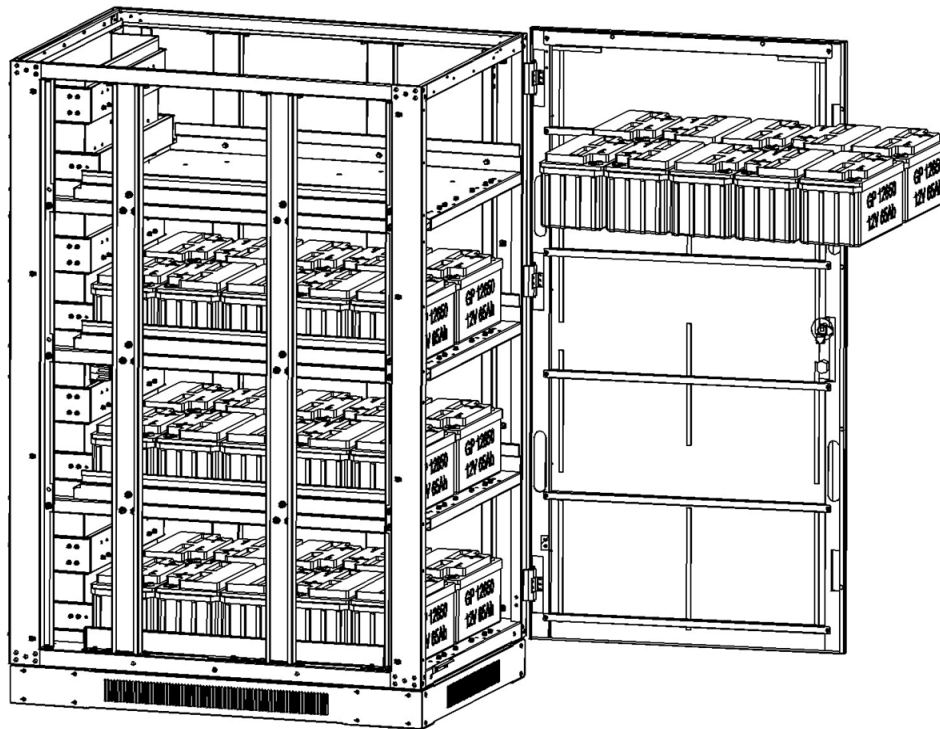
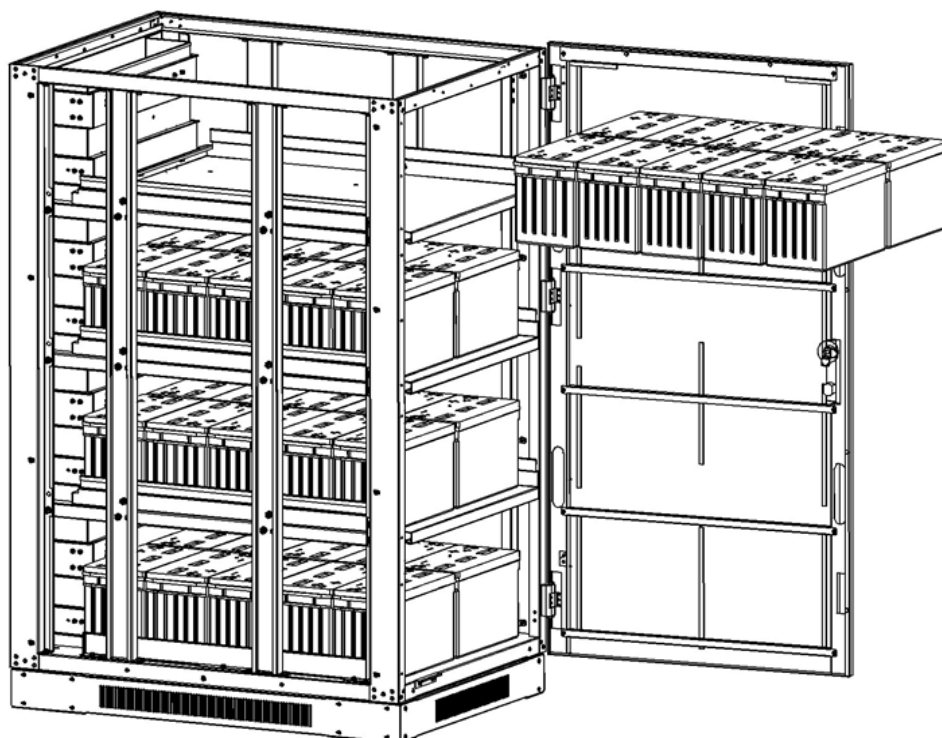

Figure 5-37: Model BP240V65L-NIB
Figure5-38: Model BP240V100L-NIB
7. Install 10 battery packs in layer 4 (Figure 5-37: Model BP240V65L-NIB or Figure 5-38: Model BP240V100L-NIB).